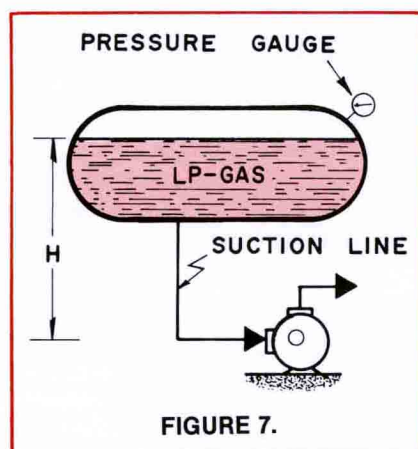

FIGURE 7.
(B) PUMPING HIGH VAPOR PRESSURE LIQUID. (See Figure 7.)